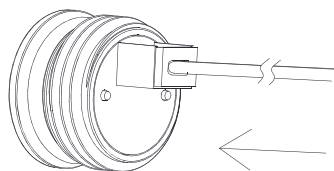

Figure 1
1. Connection of the male and female connector will help turn on the photocell. (Figure 1)